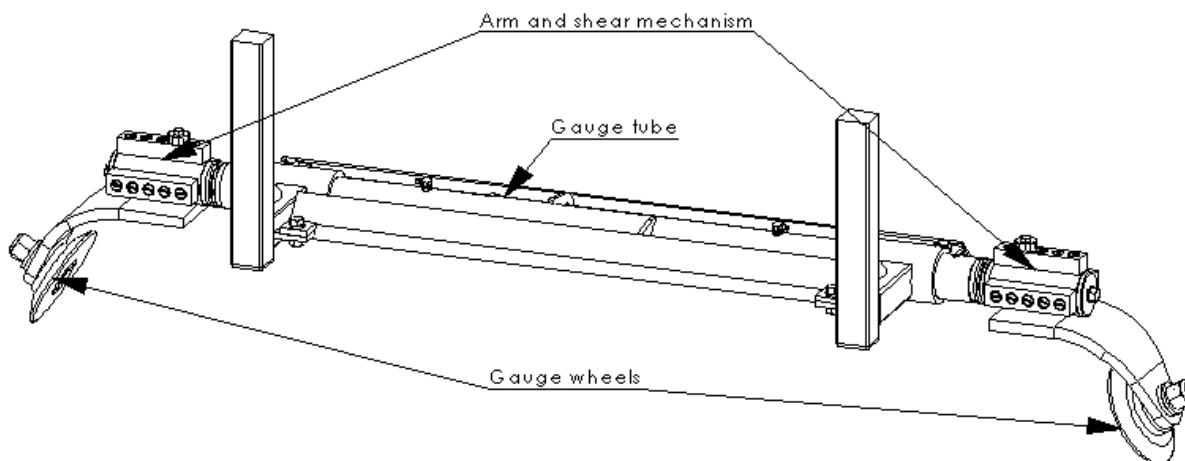

Figure 11 - Remaining Gauge Assembly
1. The three assemblies already together are the Gauge Tube Assembly, Arm and Shear Mechanism and the Gauge Wheels. This can be seen in Figure 11 below.